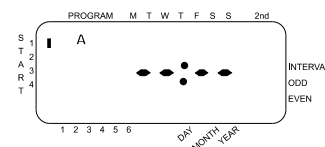

Figure 4: LCD Display with Start Time
- The way you set the start time is the same for both programs. Turn the rotary dial to the Start Times position in the program that you want to set. The display will show an A or B depending on which program you have selected. The display will show --:-- and a blinking cursor in Start 1 location [See Figure 4].